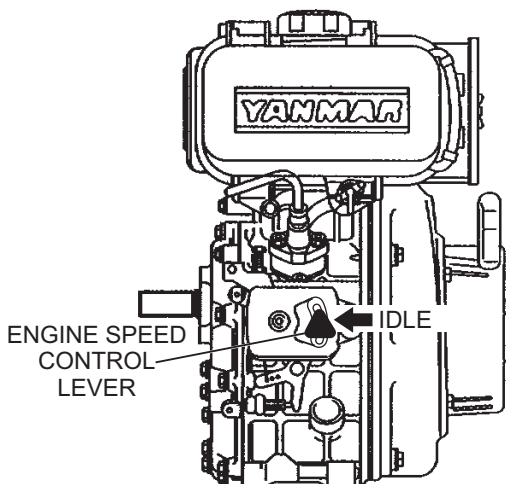

Figure 12. Engine Speed Control Lever (Idle Position)
2. Move the engine speed control lever (Figure 12) to the **IDLE** position.